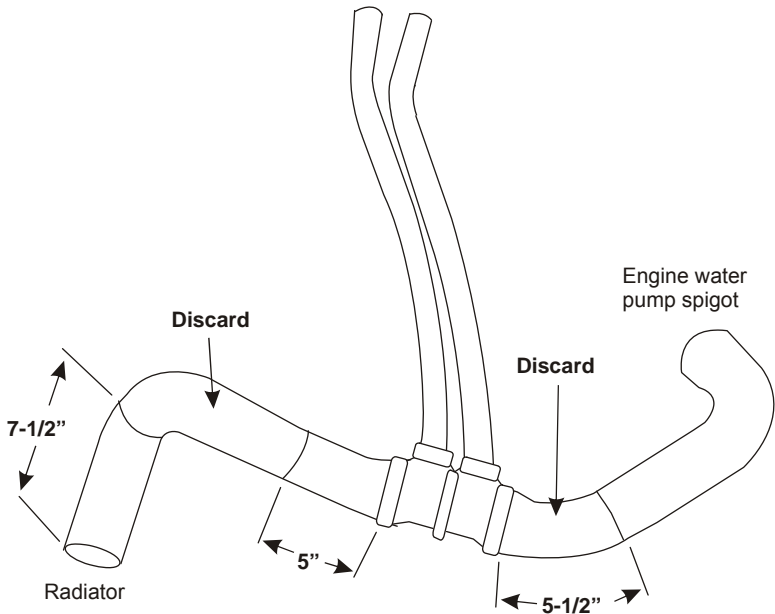

Figure 1.1
- Cut 5-1/2 inches (14 cm) from the diverter end of the water pump hose and reattach the hose from the water pump to the diverter (Figure 1.1).